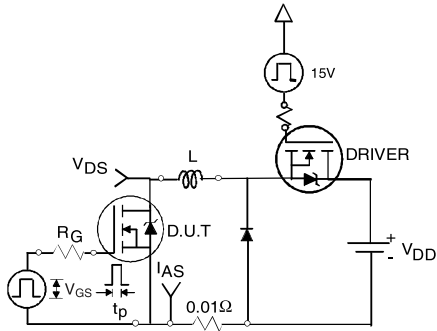

Fig 12a. Unclamped Inductive Test Circuit
- ③ $I_{SD} \leq 90A, di/dt \leq 340A/\mu s, V_{DD} \leq V_{(BR)DSS}, T_J \leq 175^\circ\text{C}$.
- ④ Pulse width $\leq 1.0\text{ms}$; duty cycle $\leq 2\%$.
- ⑤ $C_{oss\ eff.}$ is a fixed capacitance that gives the same charging time as C_{oss} while V_{DS} is rising from 0 to 80% V_{DSS} .
- ⑥ Limited by T_{Jmax} , see Fig.12a, 12b, 15, 16 for typical repetitive avalanche performance.
- ⑦ This value determined from sample failure population. 100% tested to this value in production.
- ⑧ R_θ is measured at T_J of approximately 90°C .
3. Equation below based on circuit and waveforms shown in Figures 12a, 12b.